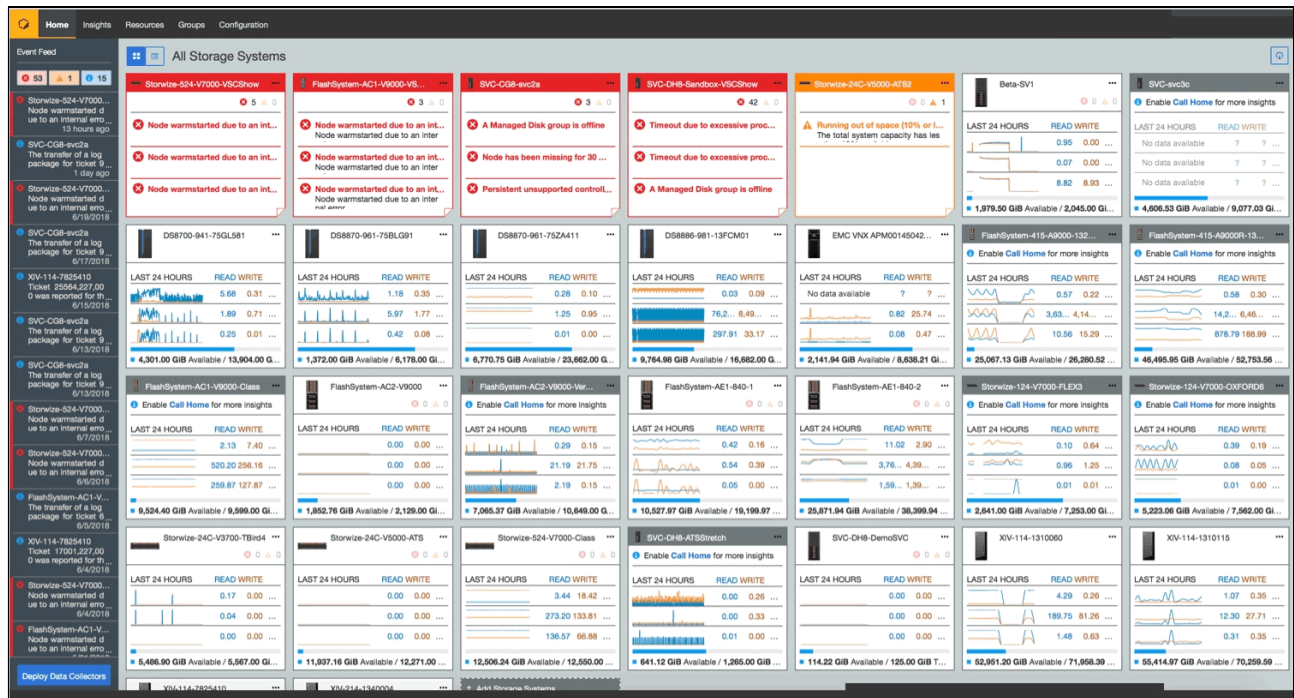

Figure 11-11 Storage Insights Main Dashboard
Figure 11-11 shows a view of the Storage Insights (SI) main dashboard and the systems that it is monitoring.